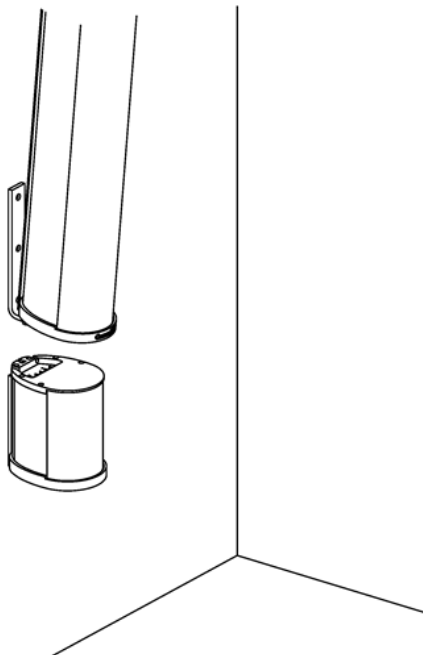
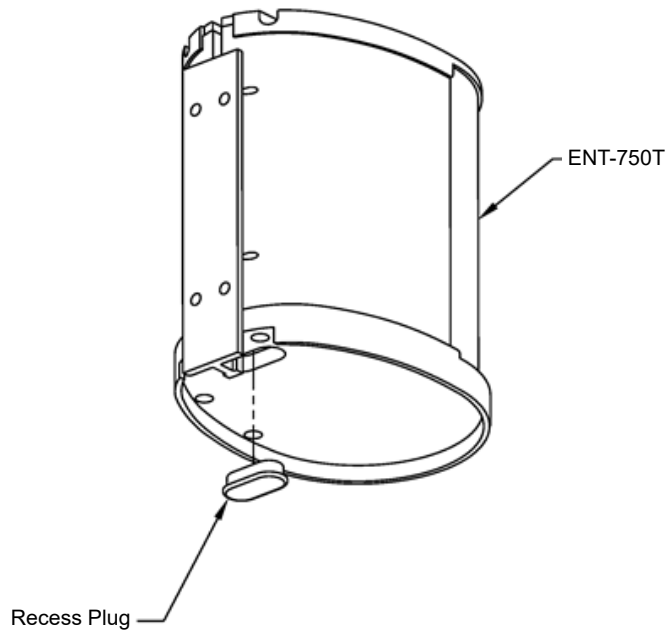

Figure 1. ENT-750T mounted below array
Figure 2. Push recess plug into opening (if mounted below array)
1. A mounting bracket ("T" bracket) is attached to the autoformer. This is similar to, but shorter than, the mounting bracket supplied with ENT-FR/LF loudspeakers. This bracket may be used to mount the autoformer directly to a wall as shown in Figure 1. This is the only way to mount the autoformer if it is to be placed below an ENT array. The autoformer may be electrically connected to the array using the barrier strip terminals on the top of the autoformer. When this mounting is used the included Rubber Plug should be inserted into the bottom dual banana jack recess area to seal it from moisture (Figure 2)